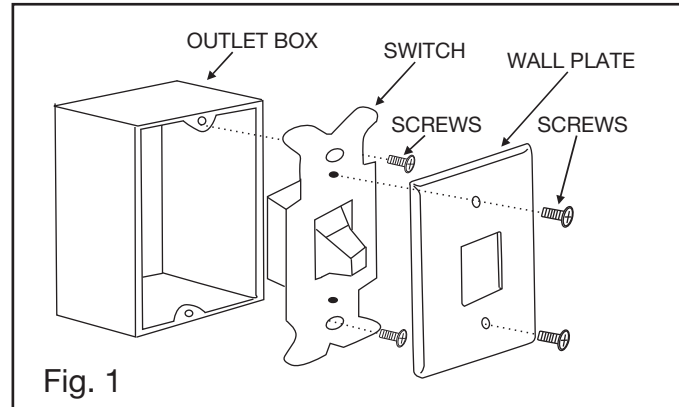
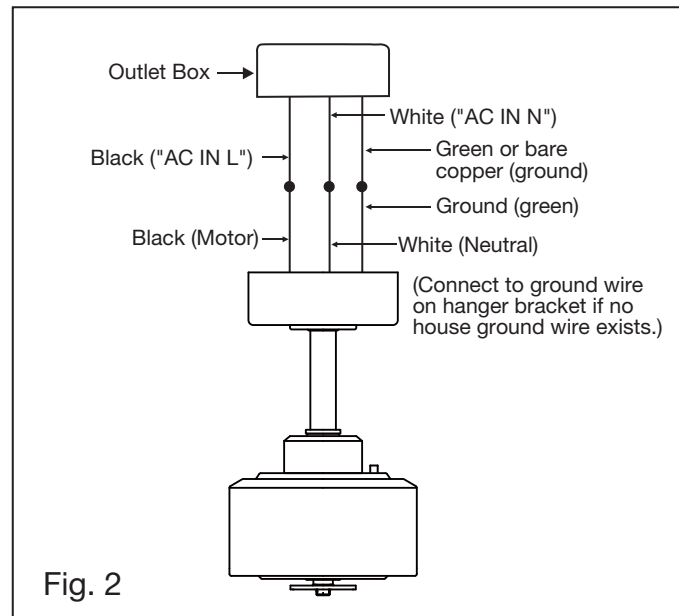

Fig. 1
Fig. 2
- 1 Remove ball from downrod by loosening set screw in the side of the ball. Slide ball down and remove ball pin; remove ball. (Fig. 1)
- 3 Loosen the two security set screws and remove the downrod pin instead of hitch pin from the coupling on top of the motor assembly. (Fig. 2)
- 1 Disconnect the power and remove the existing wall plate and switch from the wall junction box. (Fig. 1)
- 1 Connect the fan supply (black) wire to the black household supply wire as shown in Figure 2
- 2 Connect the neutral fan (white) wire to the white neutral household wire (Figure 2).
- 1 Place blade over blade arm and align blade with mounting holes in blade arms. Repeat this procedure without tightening the screw until all 3 screws and nuts have been started into the blade arm (Fig. 1).
- 3 Fasten blade assembly to motor with provided screws and lock lockwashers by uses Blade Arm Wrench. (Fig. 1) Repeat procedure for remaining blades. Make sure screws are **TIGHT!** Loose motor screws can contribute to unnecessary hum during operation. (Fig. 2)